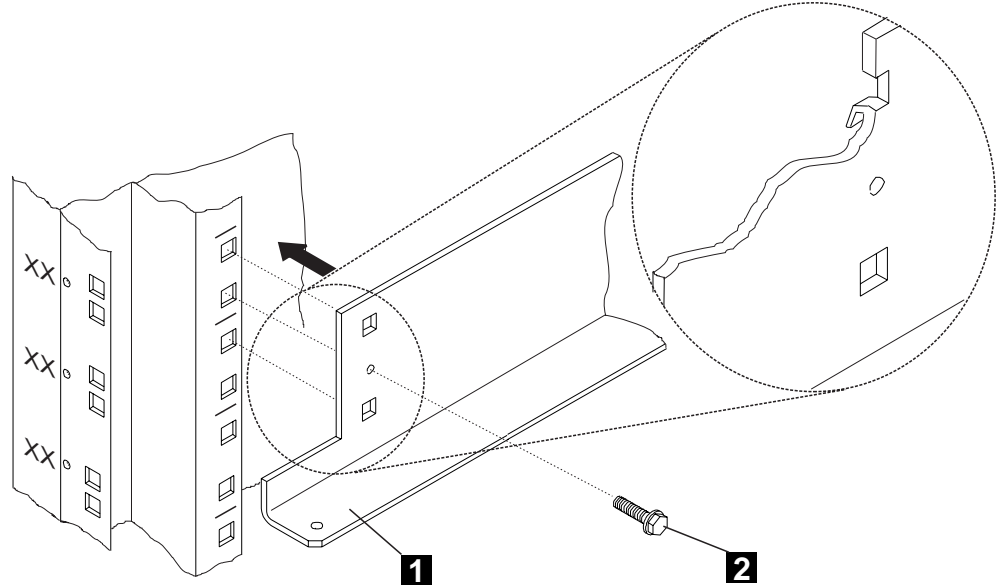

Figure 1-2. Brackets Installation
- \_\_\_ 3. **Install** two brackets **1** (PN 58G5793) using four screws **2** (PN 2665527) in the controller expansion as shown in Figure 1-2.